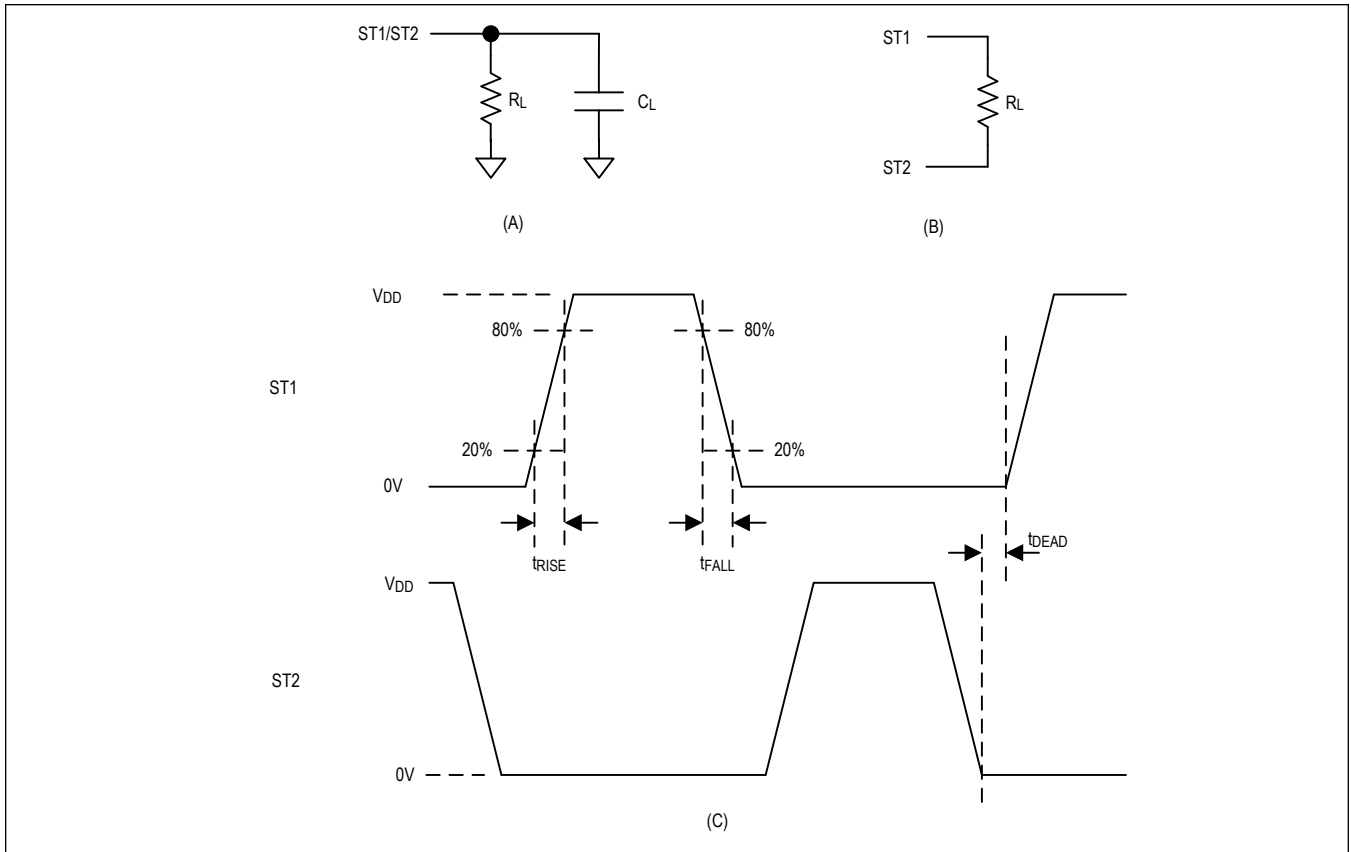

Figure 1. Test Circuits (A and B) and Timing Diagram (C) for Rise, Fall, and Dead Times
| Figure 1. Test Circuits (A and B) and Timing Diagram (C) for Rise, Fall, and Dead Times . . . . . | 9  |
| ST1/ST2 Rise Time                         | t RISE      | ST1/ ST2 = 20% to 80% of V DD , R L = 1kΩ, C L = 50pF, <a href="#">Figure 1</a>  |      |      | 100  | ns    |
| ST1/ST2 Fall Time                         | t FALL      | ST1/ST2 = 80% to 20% of V DD , R L = 1kΩ, C L = 50pF, <a href="#">Figure 1</a>   |      |      | 100  | ns    |
| Crossover Dead Time                       | t DEAD      | R L = 200Ω, <a href="#">Figure 1</a>   |      | 30   |      | ns    |